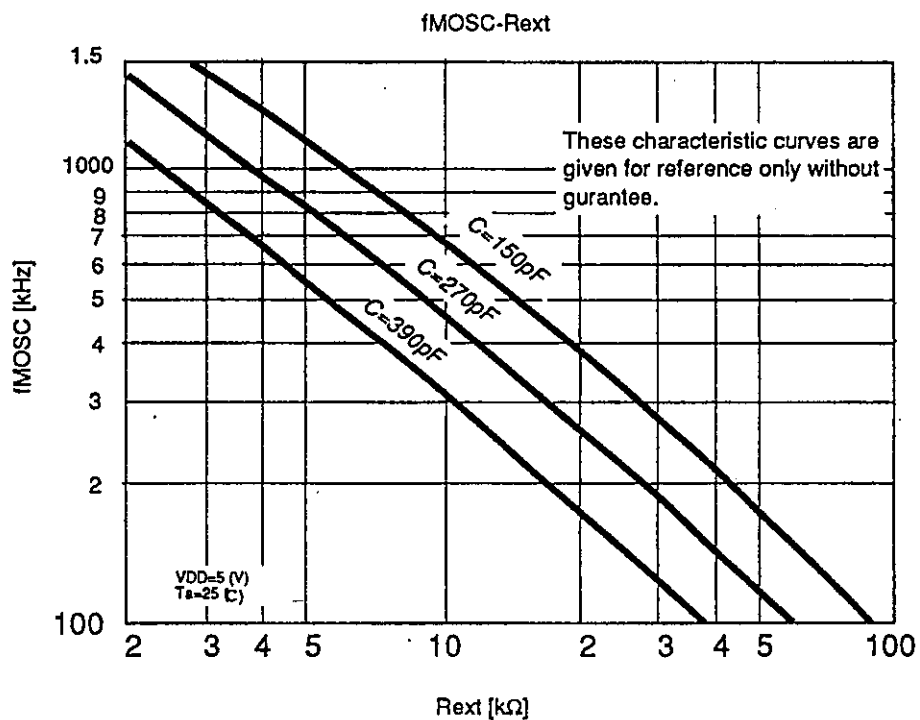

Fig. 8 RC Oscillation Frequency Data (Typ.)
Fig. 8 shows the RC oscillation characteristic of the LC6543N, 6546N. For the variation range of RC OSC frequency of the LC6543N, LC6546N, the following are guaranteed at the external constants only shown below.
- If any other constants than specified above are used, the range of $R_{ext}=3\text{k}\Omega$ to $20\text{k}\Omega$, $C_{ext}=150\text{pF}$ to 390pF must be observed. (See Fig.8.)